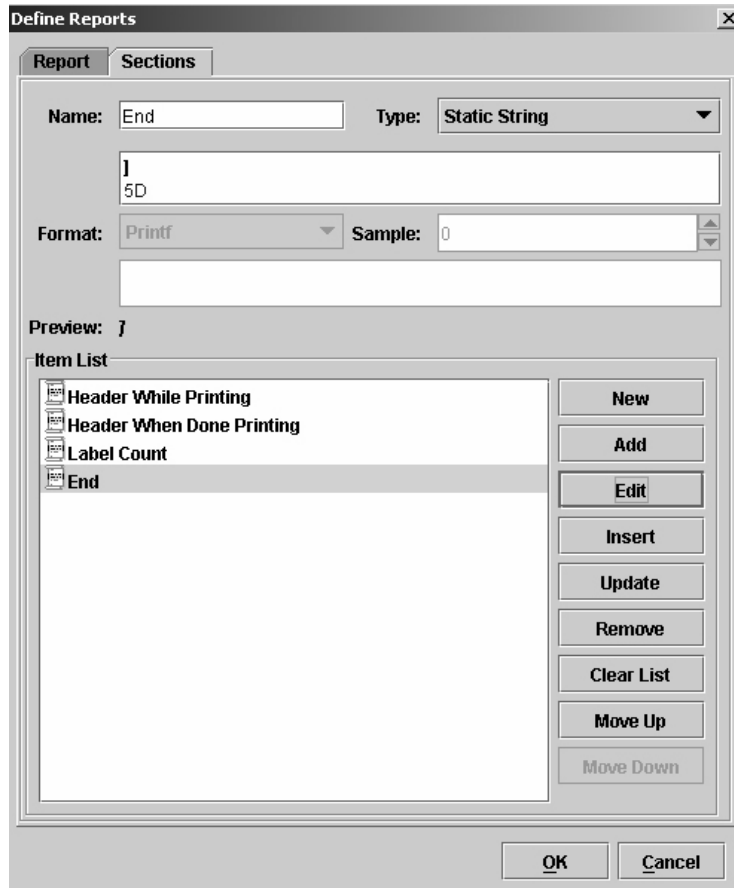

Figure 37. Creating a Sections Item List
16. Click **Add**. The End section is added to the Item List pane (Figure 37).